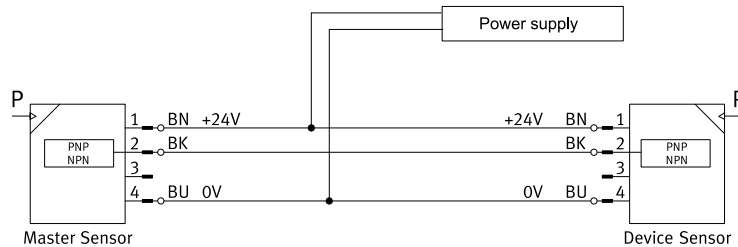

Fig. 10 Pin allocation
- The master sensor is connected with the device sensor → Fig.10.
- If an additional sensor is to be parameterised, connect the additional sensor to "→ Fig.10" and repeat step 5.